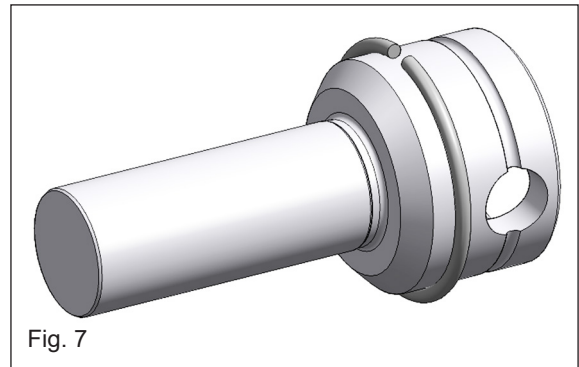

Fig. 7
1. Install snap ring (555) on plunger (502) next to the circumferential groove (see fig. 7).